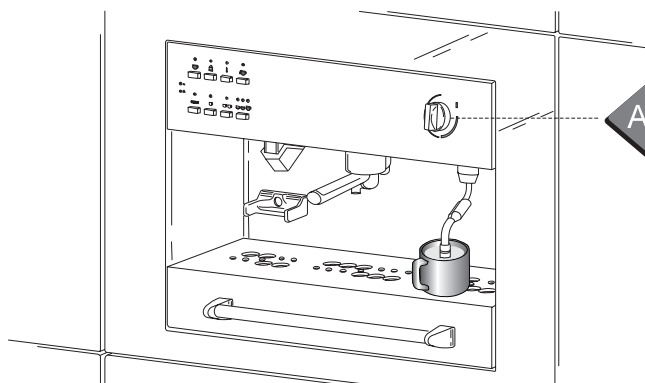

Fig. 7
- Turn knob **A** (Fig. 7) to the left to obtain hot water.
- Before placing the cup or container under the distributor, turn the knob “A” (fig.7) to the left in order to let the remaining water in the pipes coming out.
- Turn knob “A” (Fig. 7) to the left to obtain steam.